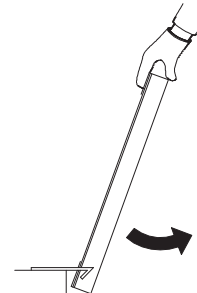

Figure 6
- (3) Unhook the protective net and pull it out. (Refer to **Figure 6**.)